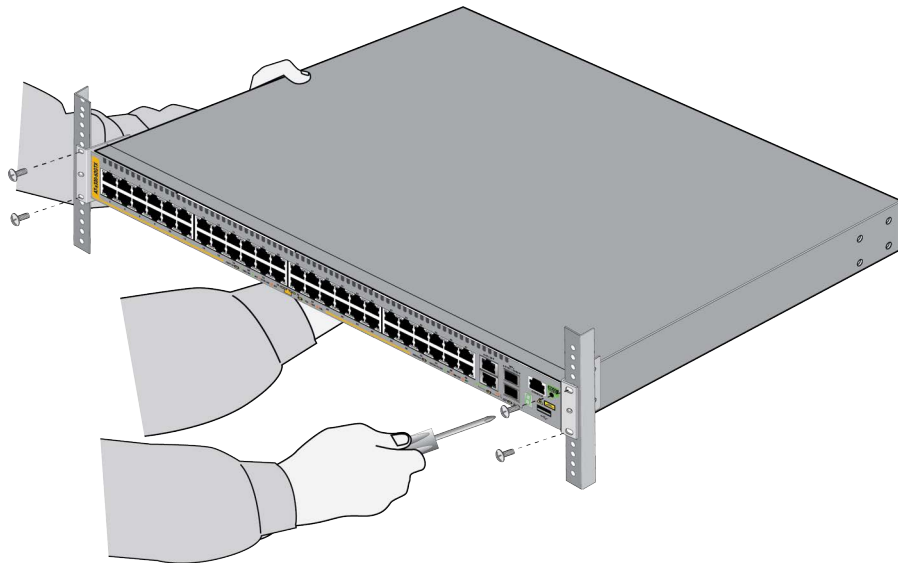

Figure 49. Securing the x330-52GTX Switch in a Standard 19-inch Equipment Rack
3. Have another person hold the switch at the selected location in the equipment rack while you secure it using four standard equipment rack screws (not provided). Refer to Figure 49.